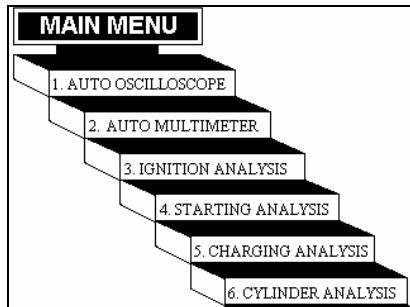

Fig.7-02
*Insert the engine analysis cartridge into the main unit. Then switch on the main unit. The unit will enter the start interface. On the start interface, press any key (except [Reset], [Power] and [Exit]), the screen will display the main menu as shown in Fig.7-02.*